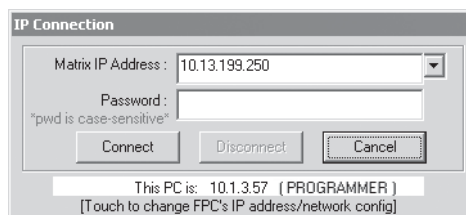
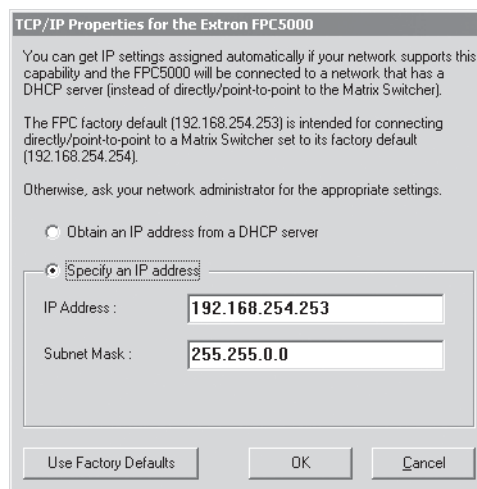

Figure 3-5 — Address and password entry
Figure 3-6 — FPC 5000 TCP/IP Properties screen
3. Touch the **Log On** button.  The IP Connection screen appears (figure 3-5).
- a. Touch the *Touch to change FPC's IP address/network config* banner in the IP Connection screen (figure 3-5). The FPC 5000 TCP/IP Properties screen appears (figure 3-6).